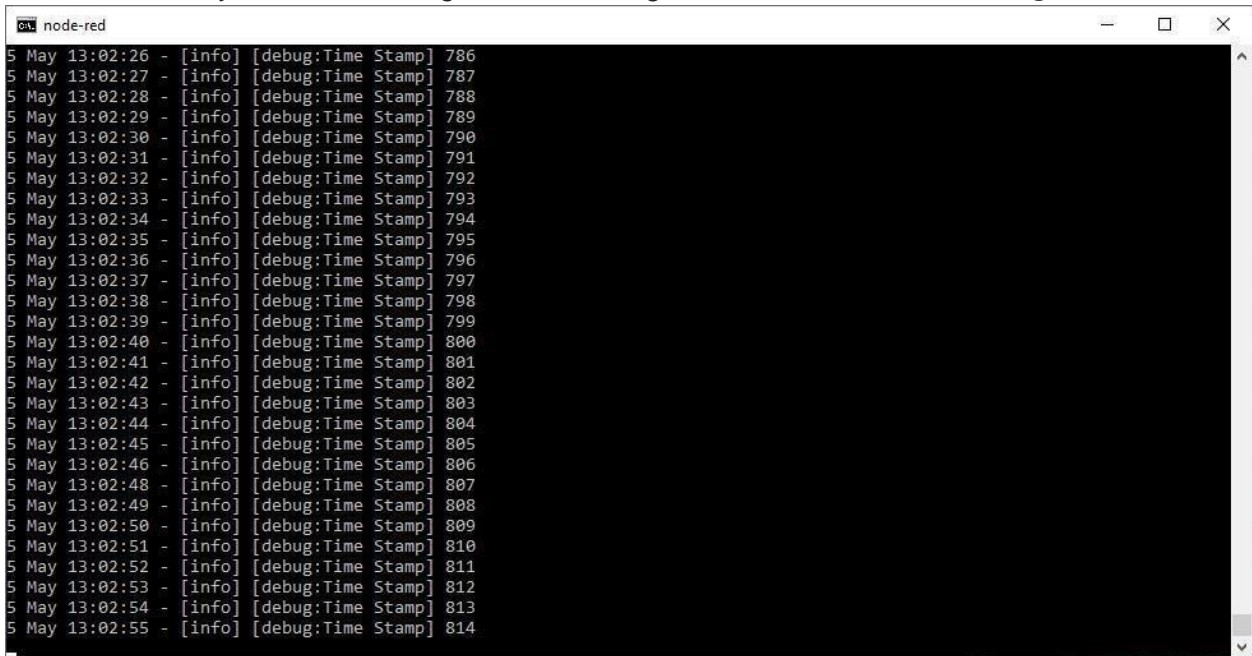

Figure 13: you start receiving the data through the console
- h. Make sure that you start receiving the data through the console as shown in **Figure 13**.